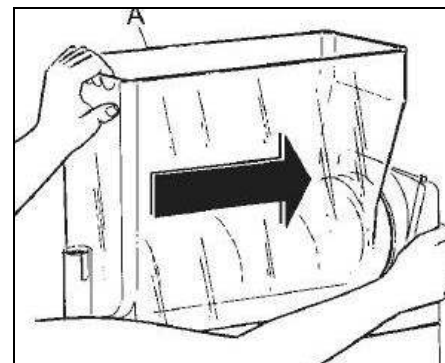

Fig. 18
- Mount the bowl back on, positioning it into place, and making sure that it has a tight hold on its gasket (see figure 18). To facilitate this procedure, we also suggest that the rear part of the bowl be lubricated at the point in which it fits together with its sealing.